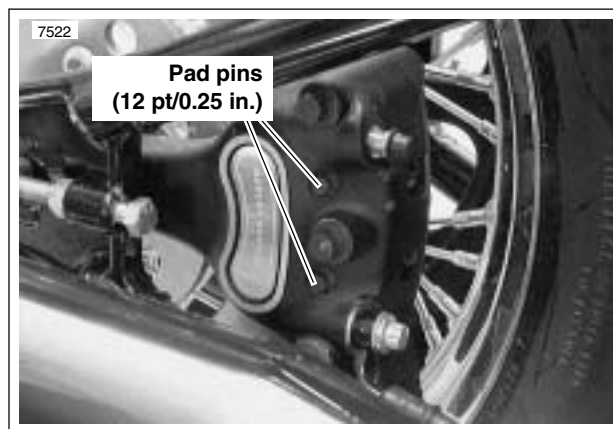

Figure 1-17. Pad Retaining Bolts (Rear Caliper Shown)
2. See Figure 1-17. Loosen, but do not remove, both pad pins (12 pt/0.25 in.).